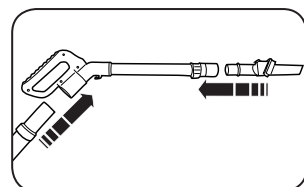

Fig. 3
3. Attach the hose suction end to the handle hose inlet and the desired tool to the end of the handle tube (Fig. 3).